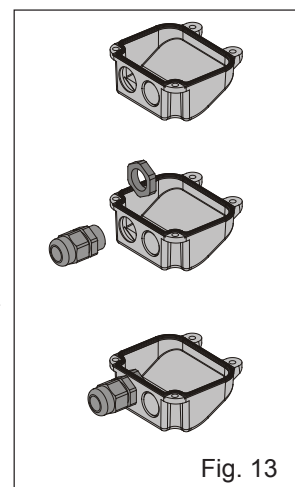

Fig. 13
1. Open one of the pre-drilled holes in the supplied cover (Fig.13).